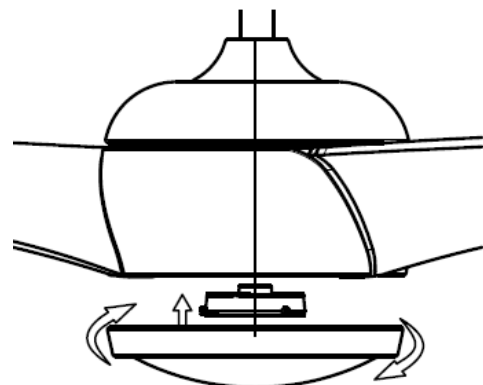

Fig. 12
5. Finally, install the bottom cover to the lamp bracket by rotating it clock wise. **Fig. 12**